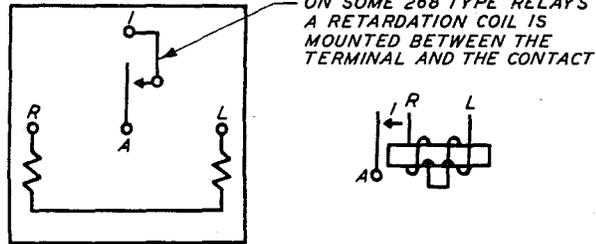

FIG. 23-WINDING AND SPRING TERMINAL ARRANGEMENT AS VIEWED FROM THE REAR (TERMINAL SIDE)-207, 213, AND 268 TYPE RELAYS
2.40 The armature (frame terminal) is designated A and the front contact or make contact screw is designated 1. The winding terminals are designated as shown in Fig. 23.